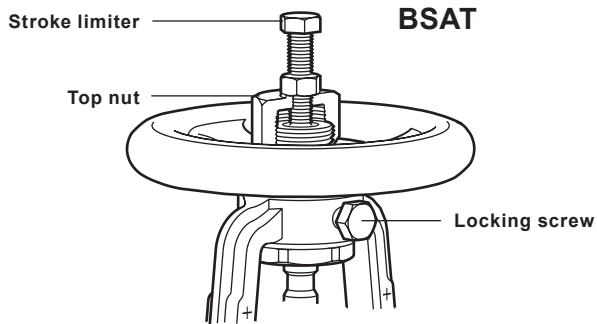

Fig. 8
- 5.4** BSAT valves are fitted with a throttling valve plug to allow close control when opening the valve. The number of turns open will affect the flowrate through the valve. Once correct flowrate is obtained ensure the locking screw and stroke limiter (see Fig. 8) are tightened. This will minimise any vibration. The effect of valve opening for each valve size can be seen in the chart, page 20.